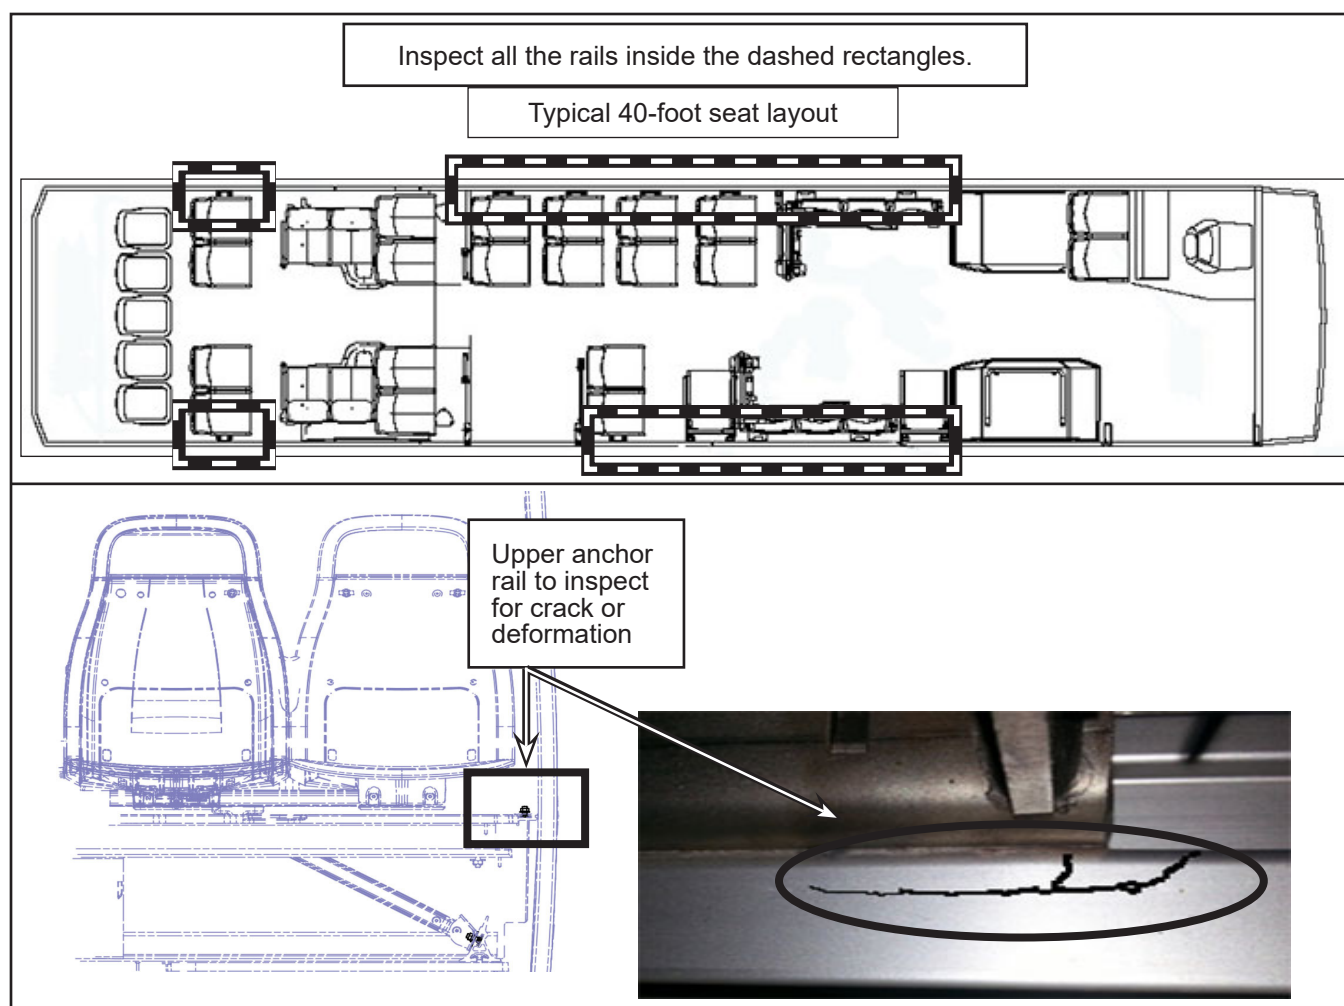

Figure 1 - Inspection of Seats' Upper Rail
- 1.1. Visually inspect all the upper anchor rails located between the front wheelhouses and the rear of the vehicle for any cracks and/or deformities. See Figure 1, for 60 foot vehicle inspect the front and rear section..